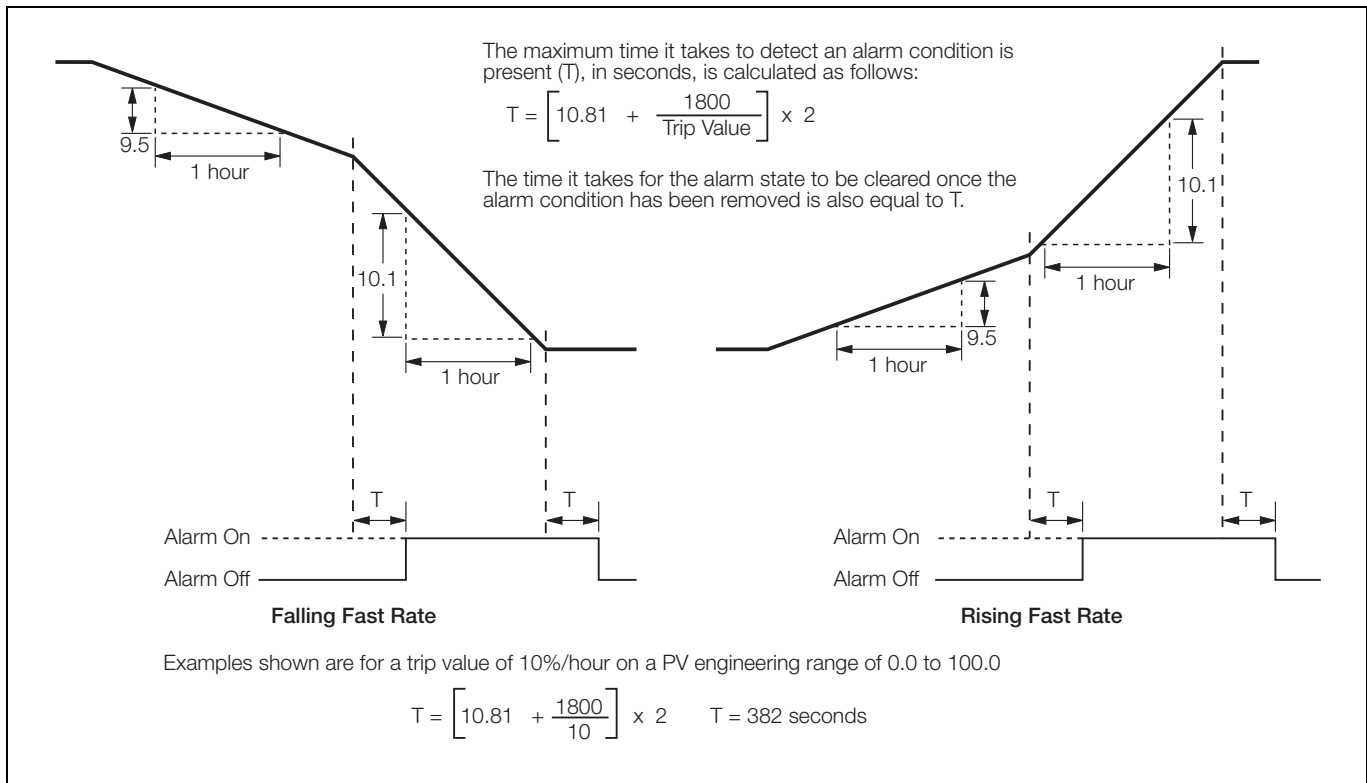

Fig. 3.3 Fast Rate Alarms with Hysteresis
- Fast Rate – See Fig. 3.3 on page 32